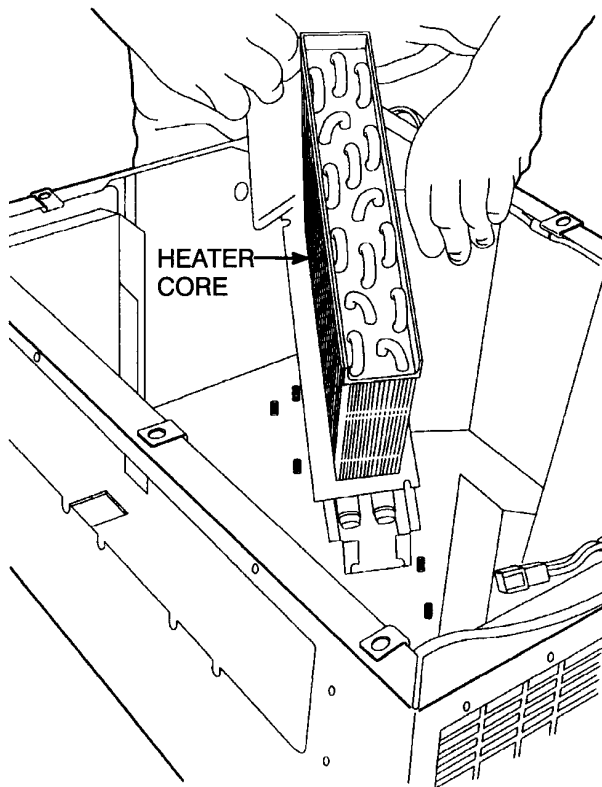

Figure 34 Heater Core Remove/Install
9. Lift the heater core out of Blend-Air unit (Figure 34).
1. Install the heater core in the Blend-Air unit (Figure 34).